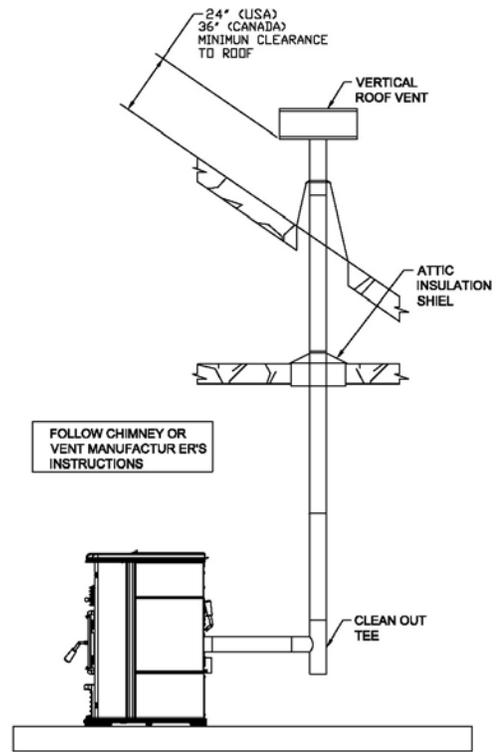

Figure 16
**B. VERTICALLY WITH NEW CHIMNEY SYSTEM (REFER TO FIGURE 16- VENTING THROUGH ROOF)**